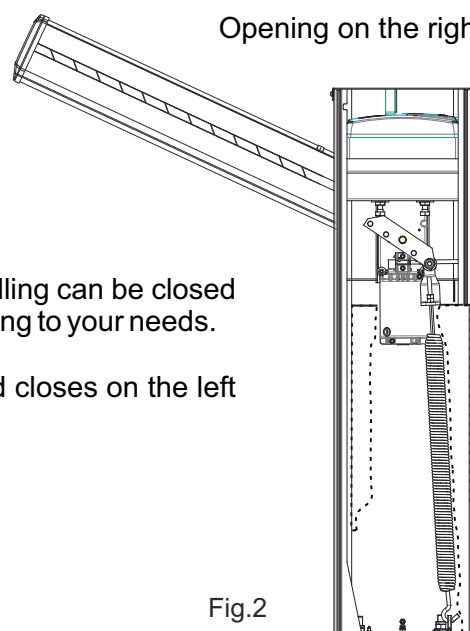

Fig.2
e.g. if the spring is on the right-hand side, the guard closes on the left (see Fig. 2).